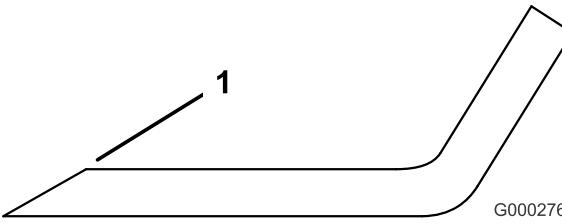

Figure 83
3. Examine the cutting edges of all of the blades. Sharpen the cutting edges if they are dull or nicked. Sharpen only the top of the cutting edge and maintain the original cutting angle to make sure of sharpness (Figure 83). The blade will remain balanced if the same amount of metal is removed from both cutting edges.